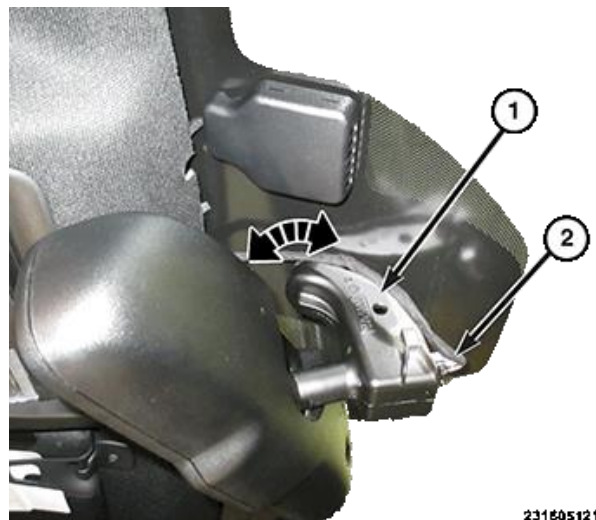

Figure 2 – Harness Connector
4. Disconnect the wire harness connector (2) from the mirror (Figure 2).